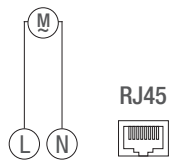

Fig. 6: Circuit diagram
3. Connect the LAN module as per the circuit diagram (Fig. 6).